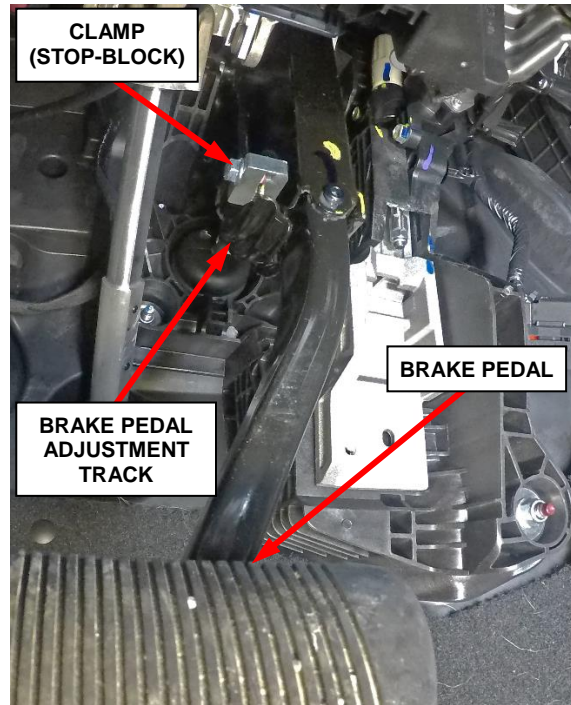

Figure 9 – Clamp (Stop-Block)
- Position and install the clamp (stop-block) to the brake pedal adjustment track, left side of the brake pedal arm (Figures 9 and 10).